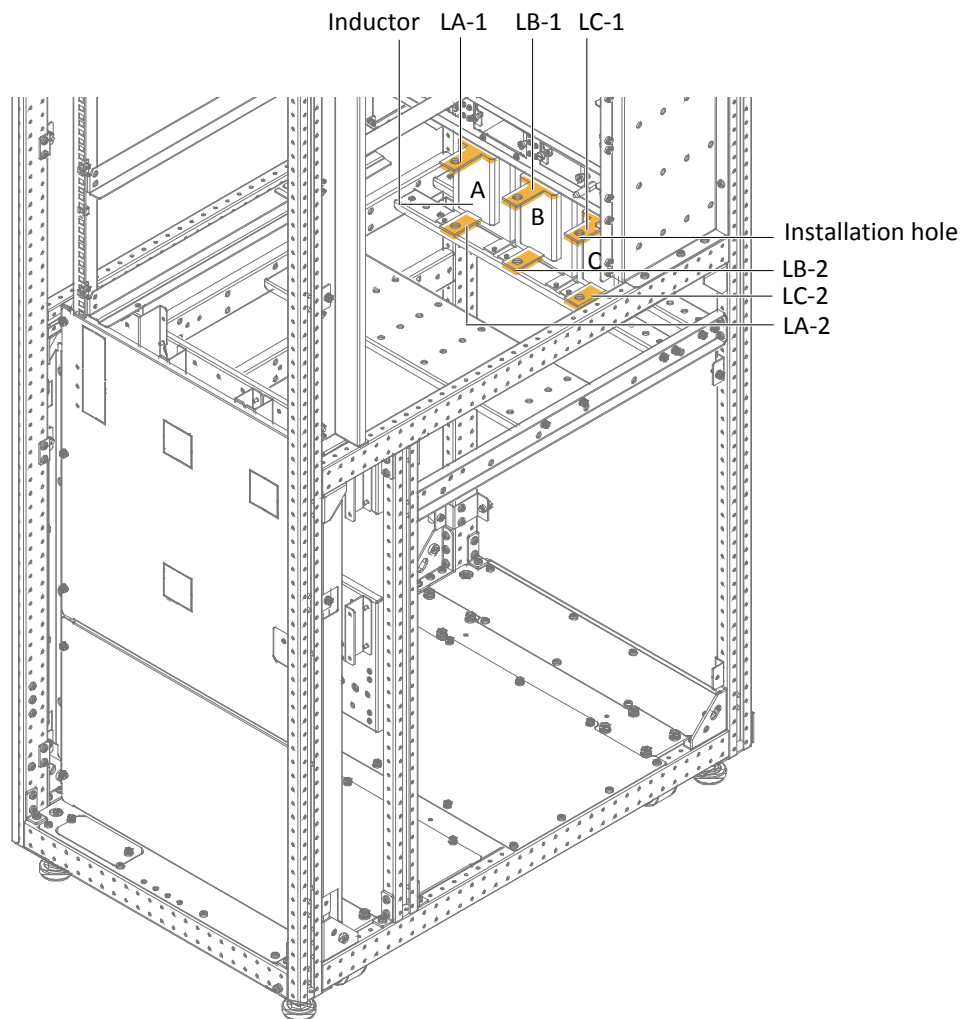

Figure 8-9 Installing bypass load sharing inductors
5. Place the three inductors (A, B, C) in the installation position and fix them with twelve hexagon sems screw M8 × 20, as shown in Figure 8-9.